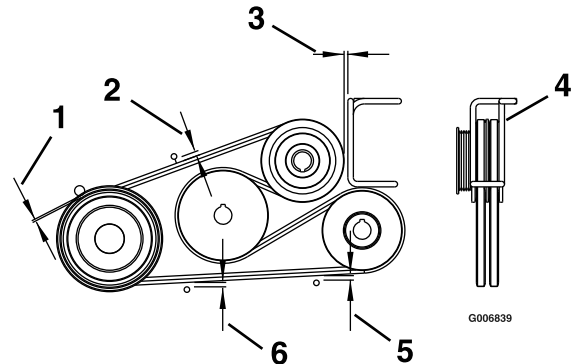

Figure 63
4. Adjust the belt guides as shown in Figure 63.